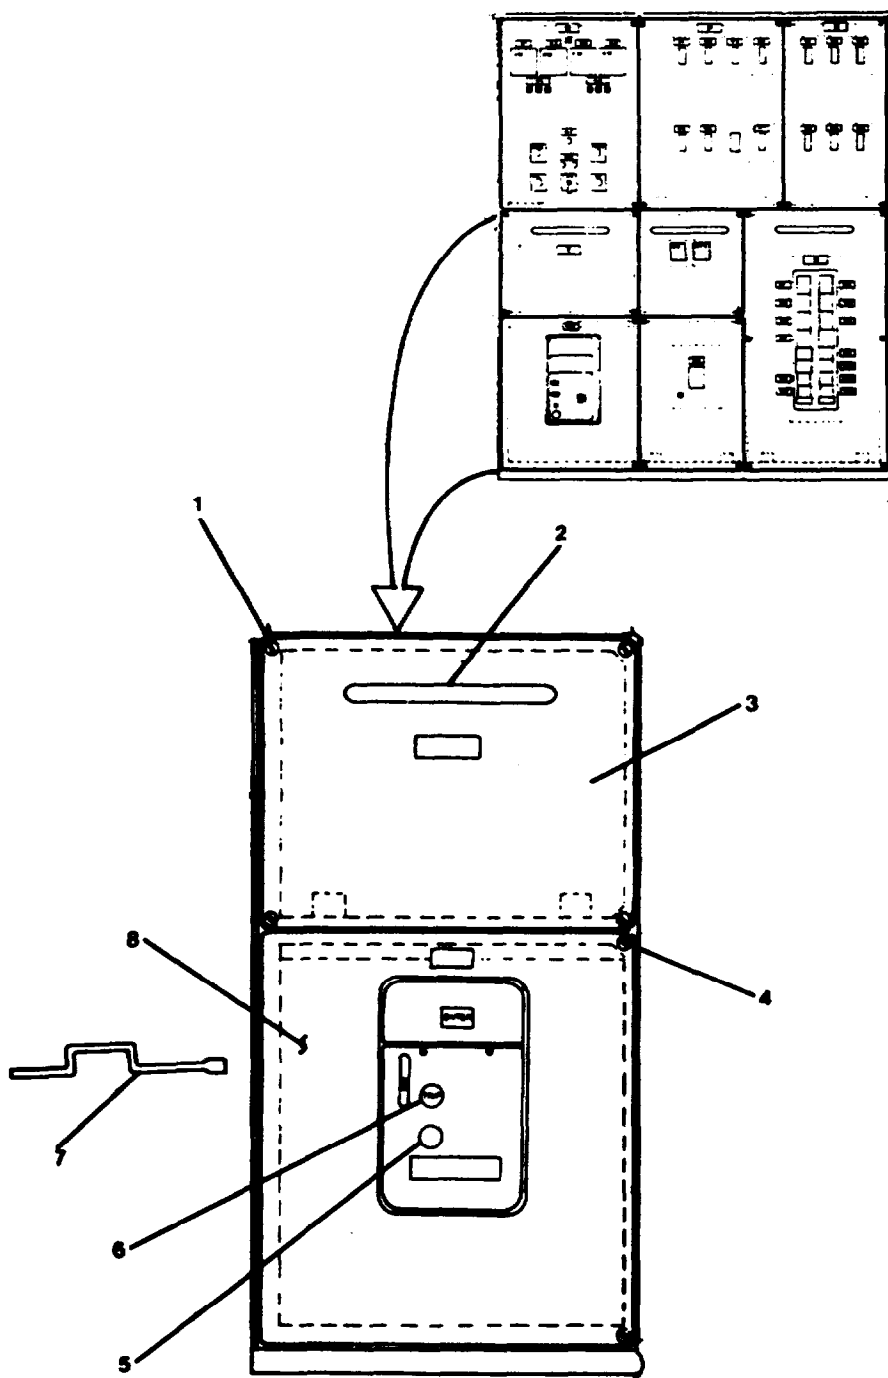

FIGURE 2-222. Emergency Generator Switchboard Middle and Bottom Left Panels.
- a. Turn door panel screws (1, FIGURE 2-222) counterclockwise to loosen.
- (1) Remove door panel (3) using hand rail (2).
- (2) Store door panel (3) in safe and out-of-way place.